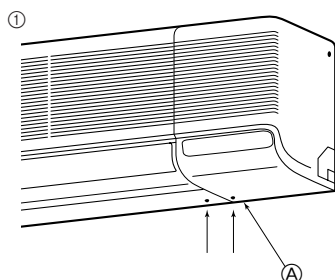

Fig. 3-6
1) Rear, right and lower piping (Fig. 3-6)
- ① Remove the right side panel.
- ① Remove the side panel.